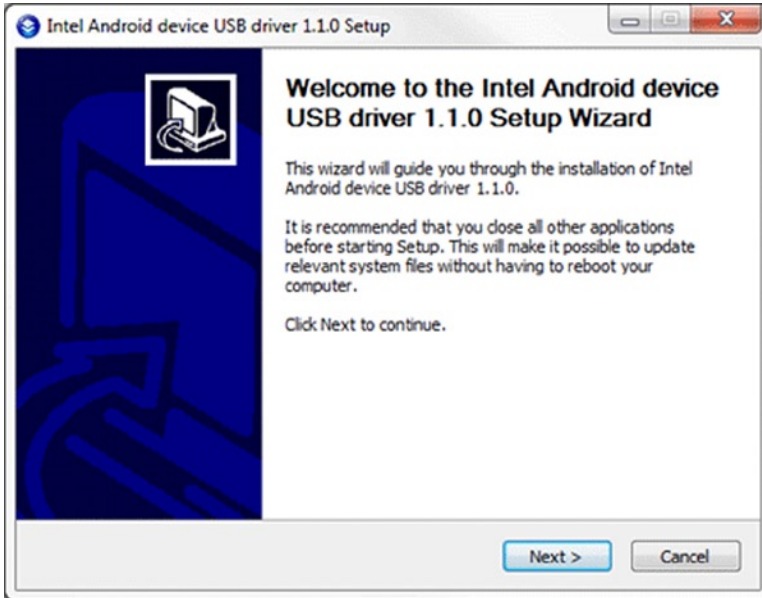

Figure 8-1. USB Device Driver Installation Start Screen
3. You will see the screen in Figure 8-1. Click Next to continue. (If the installer detects an older version of the driver, accept to uninstall it.)